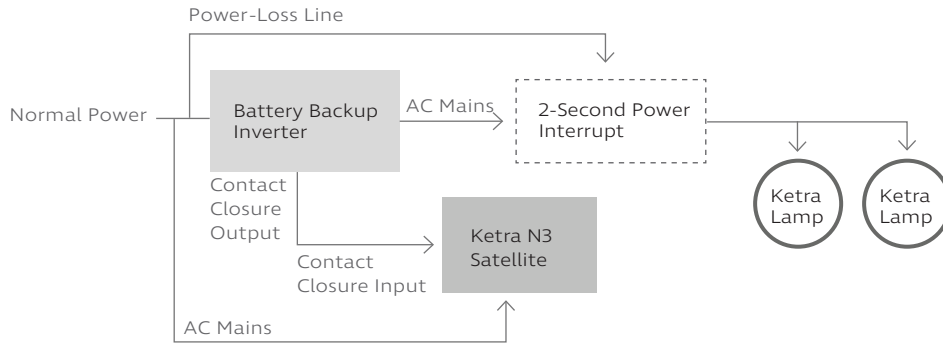

fig. 2
- If the contact-closure N3 Satellite does not have attached emergency fixtures, it does not need power in an emergency. Consequently, it can use normal power, as shown in fig. 2.